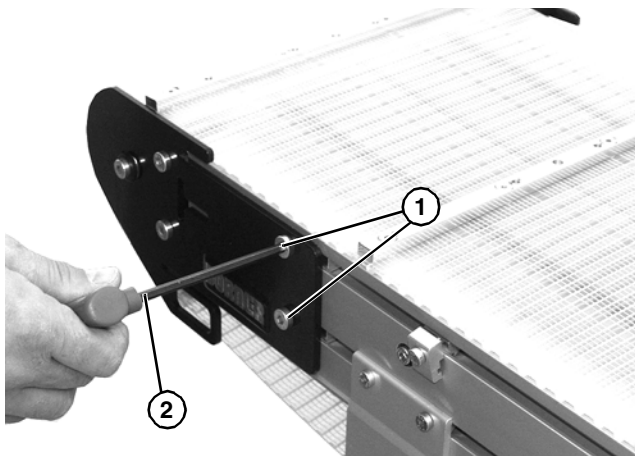

Figure 27
2. For fixture belt conveyor, loosen UHMW support screw of idler tails. Loosen screw (**Figure 27, item 1**) on both sides of tail with hex wrench (**Figure 27, item 2**).
6. Tighten UHMW support screws (**Figure 27, item 1**) to 69 in-lbs (7.8 Nm).